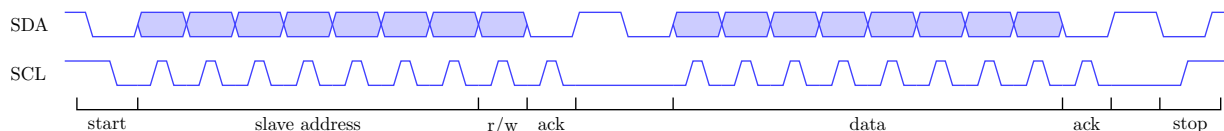

Figure 6: Example I²C frame.
- We show a typical I²C frame in Figure 6.